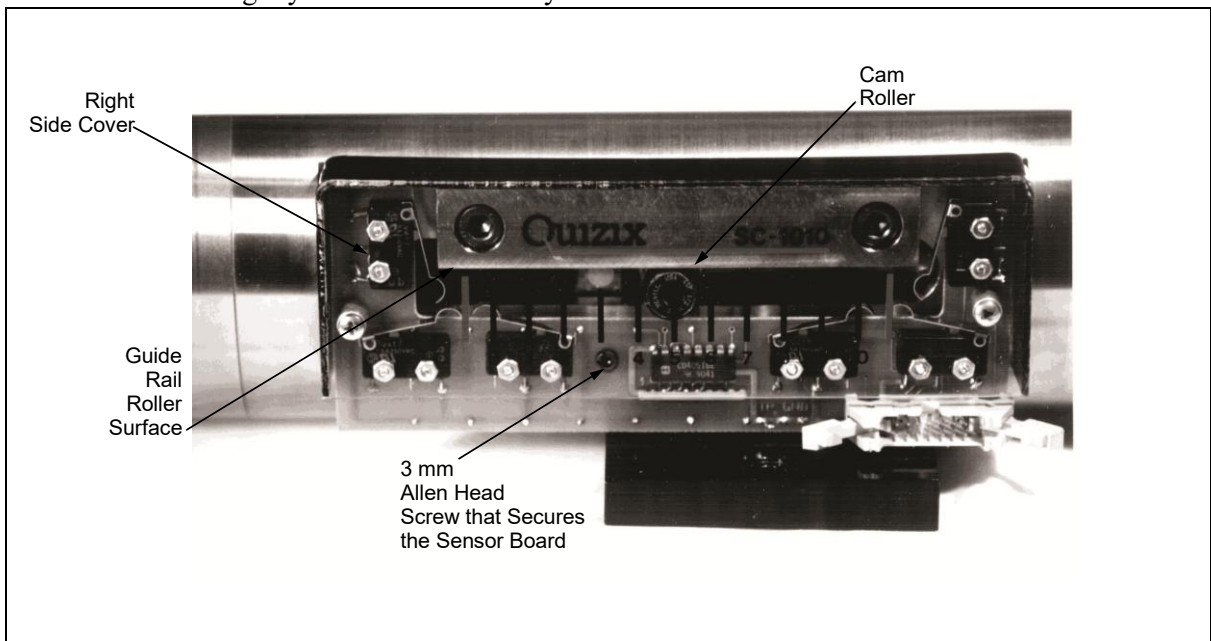
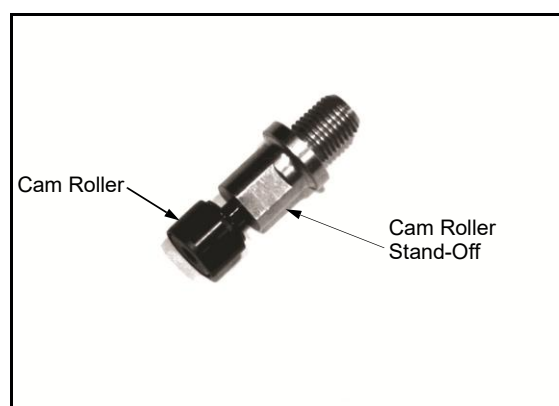

Figure 13-4 Right-Side Cam Roller
Figure 13-5 Cam Roller and Stand Off
There is a cam roller on each side of the pump cylinder. Different cam rollers are used for high temperature and ambient temperature systems. These components, while simple, perform an important job in the pump cylinder. But their internal lubrication can dry out over time, especially on the high temperature pump systems. This procedure explains how to confirm the cam rollers are working properly, are lubricated correctly and, if necessary, how to replace them. Refer to Figure 13-4 and Figure 13-5. The cam roller and stand-off shown in Figure 13-5 is shown magnified and with the roller slightly unscrewed for clarity.
- b. If the steel guide rails (see Figure 13-4) on which the rollers roll, have any marks on them other than a straight “wear path” parallel to the sides of the rails, the rollers should be replaced.